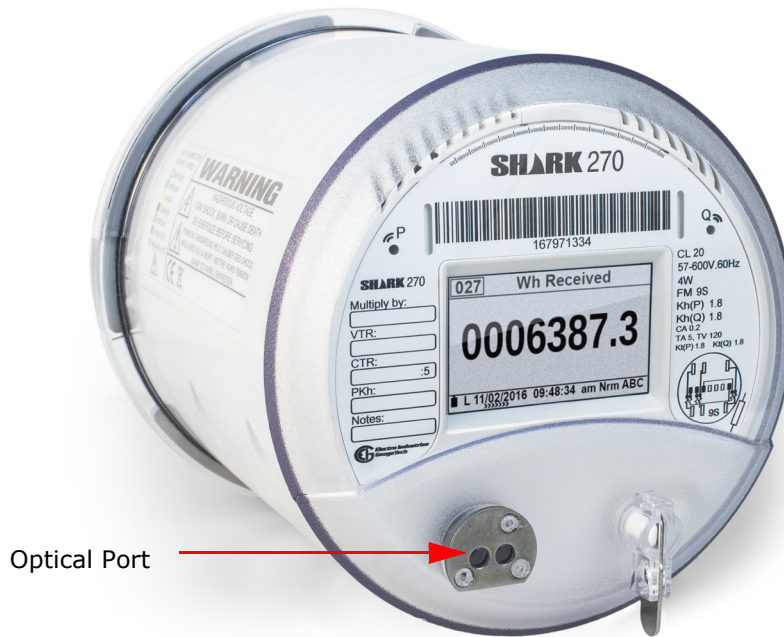

Figure 4.2: Optical Port Location
- Communication is available through the meter's Optical port with a communication interface; see figures 4.2 and 4.3.